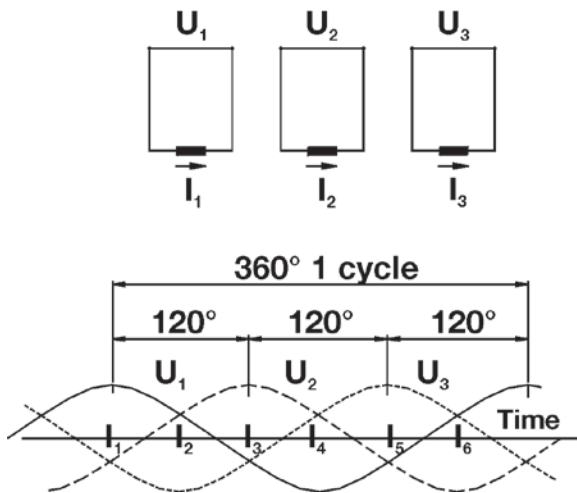

Figure 1.7
A three-phase system is formed by associating three single-phase voltage system, U_1 , U_2 and U_3 which so the phase displacement between any two of them is 120° , which means, the “delays” of U_2 relating to U_1 , U_3 relating to U_2 , relating to U_3 , are equal to 120° (considering a complete cycle = 360°). The system is balanced if the three voltages have the same effective value, $U_1 = U_2 = U_3$, as shown in figure 1.7.
b) Figure 1.11b shows a three-phase winding consisting of three single-phase winding displaced 120° each other. If this winding is fed from a three-phase system, currents I_1 , I_2 and I_3 will generate their own magnetic fields H_1 , H_2 and H_3 in a similar way. The displacement between these fields is 120° ; moreover, since they are proportional to the respective currents, the phase displacement in time between them will equally be 120° , which can be represented in a chart similar to figure 1.7. At any instant, the total resulting field H will be equal to the graphical sum of field H_1 , H_2 and H_3 .
Repeating this procedure for the instants 2, 3, 4, 5 and 6 of figure 1.7 we can see that the resulting field H presents a constant intensity, but its direction keeps rotating to complete a whole turn at the end of a cycle.